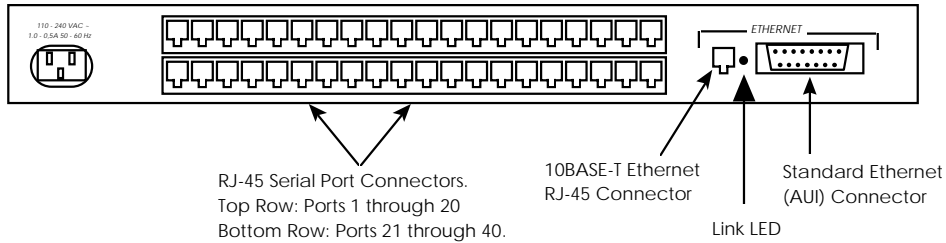
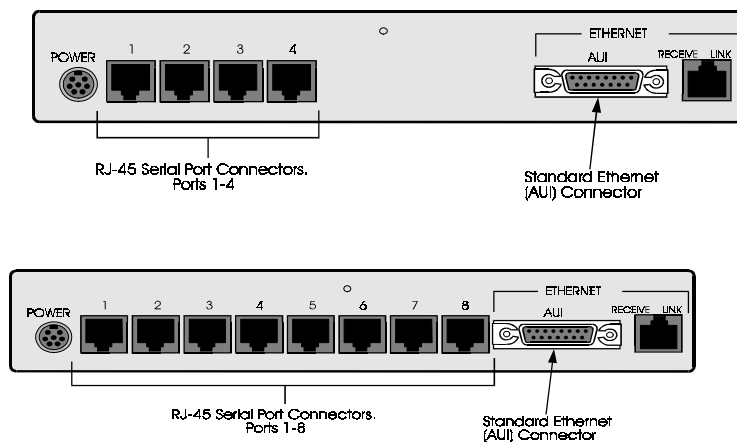

Figure 4 - MAXserver 1620/1640, Rear View
Figure 5 - MAXserver 1604/1608B, Rear View
Connect either a 10Base-T or AUI Ethernet network cable to the appropriate connector on the rear of the MAXserver (See Figure 4 for 20-port and 40-port models; Figure 5 for 8-port and 4-port models.) Connect only one Ethernet cable to the unit. When powered up, the unit selects the interface on which it detects network activity.
1. Plug the AC line cord (supplied) into the AC power receptacle on the rear of the unit. (See Figure 4 for the location of the power receptacle.)